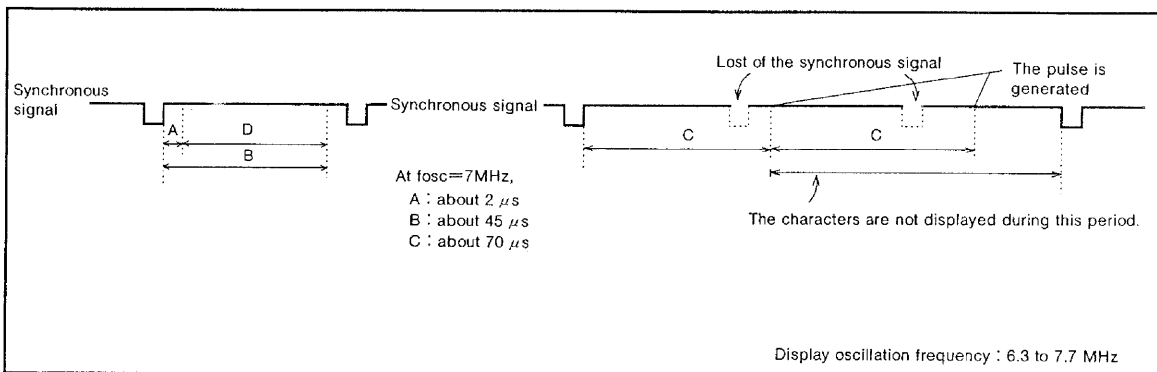

Fig. 12 Example of time base function
- (1) Time base 0—TBASE0 (DA6 of address $F1_{16}$)="1".
- Cut-off a noise during D period of Figure 12.
- (2) Time base 1—TBASE1 (DA7 of address $F1_{16}$)="1".
- Generate the pulse if the synchronous signal has not input during C period of Figure 12. And stop to display the character till the next synchronous signal is input.